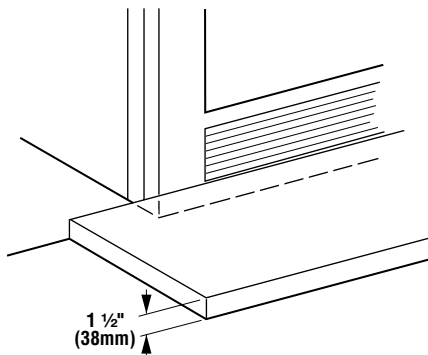

Figure 54
**WARNING: FIREPLACE MUST BE RAISED IF THE HEIGHT OF THE HEARTH EXTENSION EXCEEDS 1 1/2" (38MM) ABOVE THE BOTTOM OF THE FIREPLACE (FIGURE 54).**